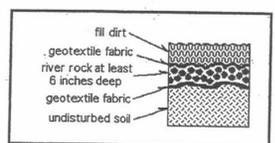

Figure 2
- An aeration system shall be installed in the area shown in figure 2 below prior to grading. The aeration system (see diagram below) shall consist of geotextile fabric laid on top of the undisturbed ground; with not less than six inches of river rock on top of it; and with a second layer of geotextile fabric laid on top of the rock.